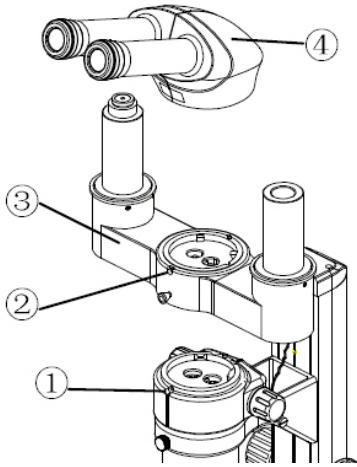
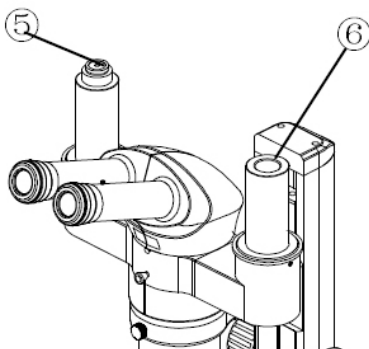
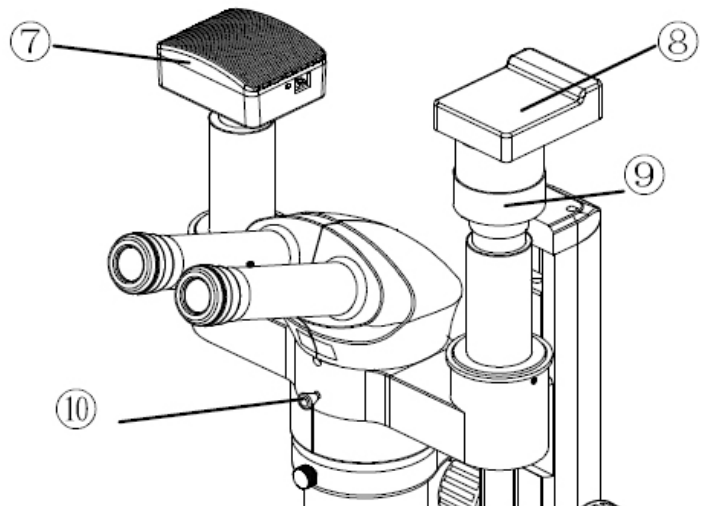

Fig.16
Fig.18
Fig.19
(Fig.16 ~ Fig.19)
- The optional light splitter unit (3) makes it possible to perform photography or video observation.
1. Loose the bolt (1) with provided hex wrench and remove the binocular head (4) away from the zoom body.
2. Mount the light splitter unit (3) onto the zoom body and fix it with bolt (1).
3. Mount binocular head (4) onto the light splitter unit with bolt (2), as shown in Fig.18.
4. Mount the camera head (7) into the C mount (5) (both 1× and 0.5× available) of the light splitter unit. Mount the adapter (9) onto the transfer tube (6) on the splitter unit ,as shown in Figure18 and Figure19.
Pull out the light switching lever (10) to open the light path, as in figure 19.